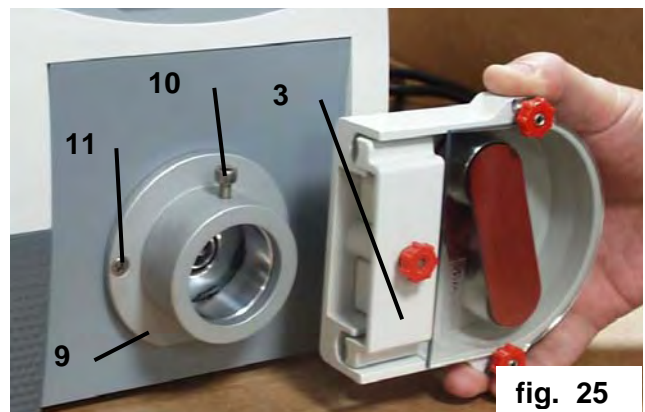

fig. 25
2.3. SP Standard, SP vario, (fig 25)
- Installation of SP Standard and SP vario pump heads needs flange (9) from your hardware kit.
- Uninstall flange (9) from pump head (3) by loosening setscrew (10).
- Secure flange on front panel with countersunk screws (11). Use Phillips screwdriver.